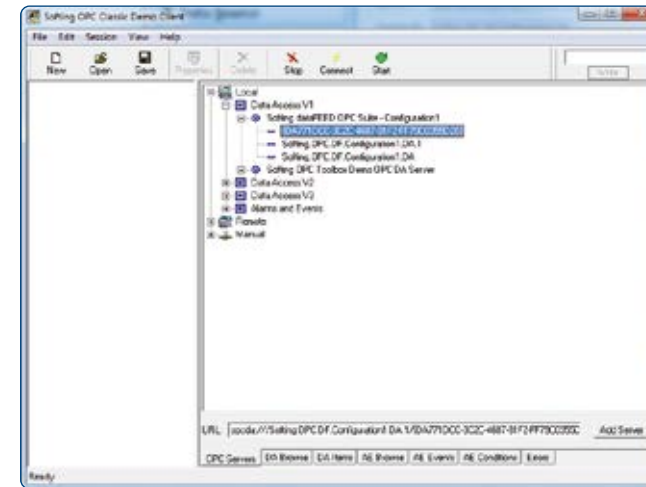

Figure 81: Selection of the DA Server.
16. In order to test the bridge start the Softing OPC Classic Demo Client. Select the OPC Server Tab and select the DA server (Figure 81).